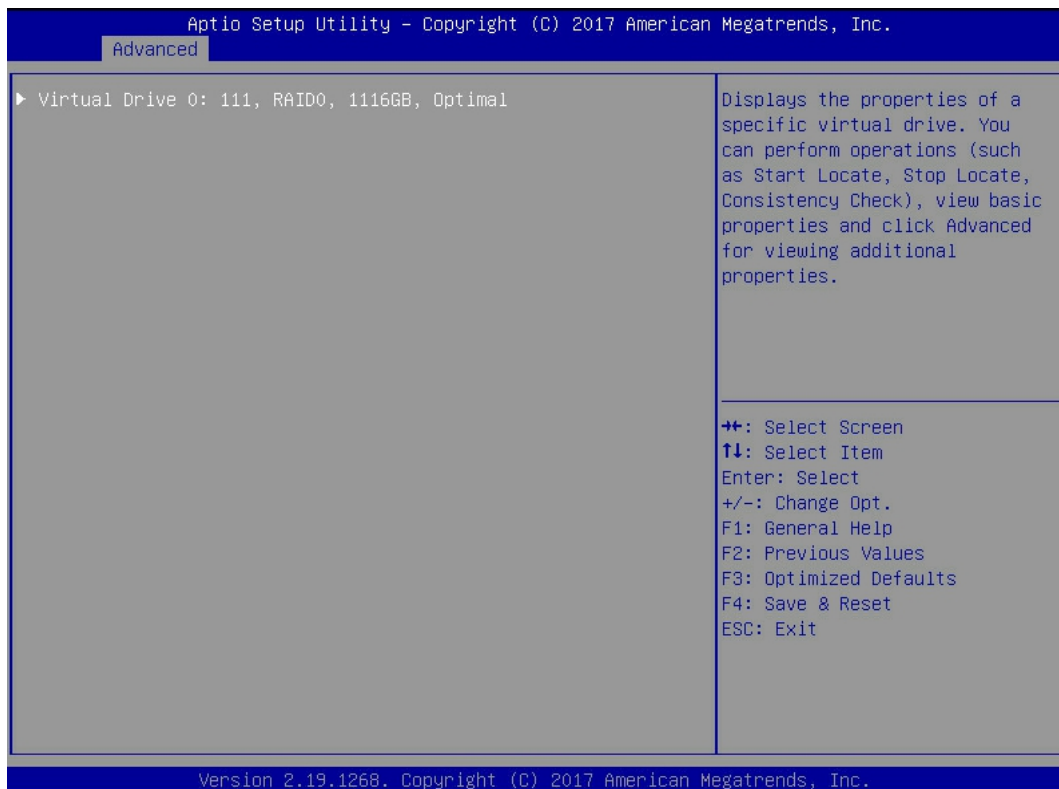

Figure 6-61
b) Enter the interface shown in figure 6-61, select the logical disk to be located, and press enter.
✧ Figure 6-61 selecting the logical drive to be located